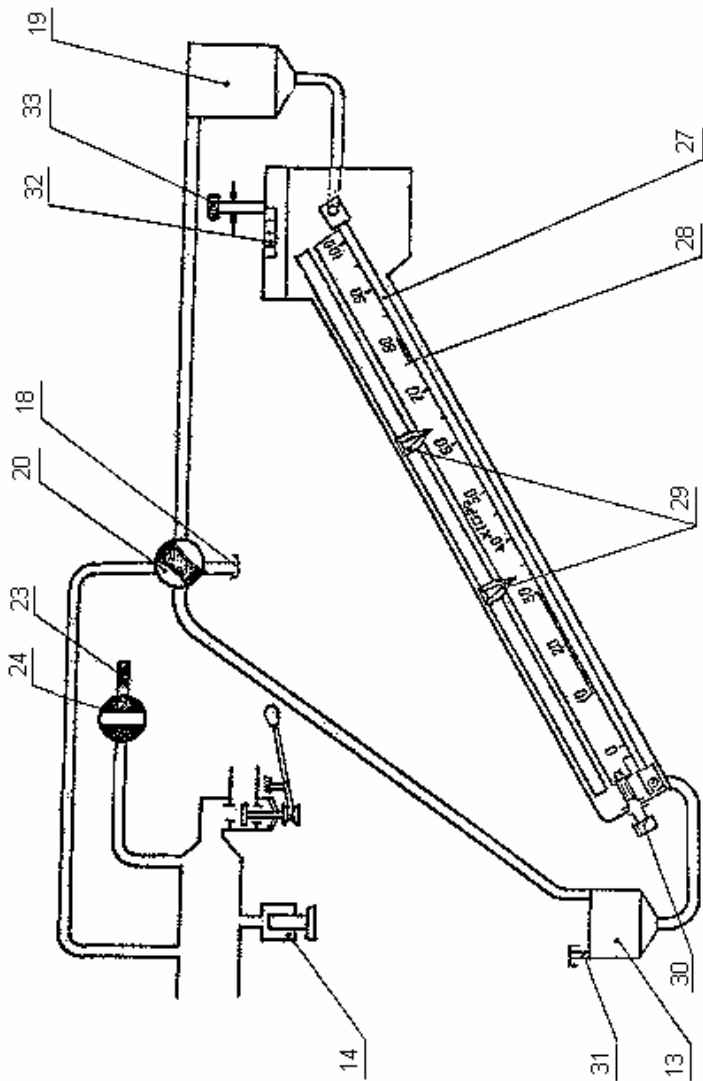

Fig. 5. Block-diagram of the pressure gauge-flowmeter:
3.3.1 Pressure gauge-flowmeter (Fig. 5) is designed to measure positive or vacuum pressure, maximum 1000 Pa and oxygen feed in the range of 0.6 to 2.0 l/min.